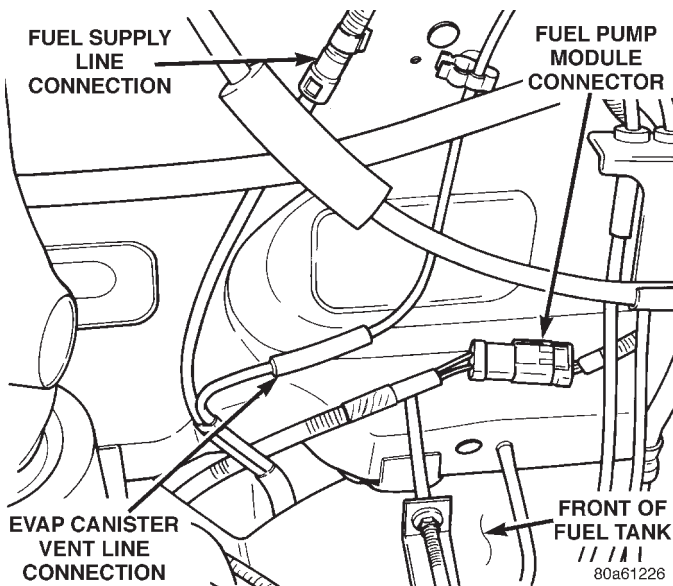

Fig. 38 Fuel Tank Connections at Front of Fuel Tank
(10) Disconnect fuel supply line near front of fuel tank (Fig. 38). Refer to Fuel Tubes/Lines/Hoses and Clamps in this group. Also refer to Quick-Connect Fittings for procedures.
(11) Disconnect EVAP canister vent line near front of tank (Fig. 38).
(12) Disconnect fuel pump module electrical connector (pigtail harness) near front of tank (Fig. 38). Harness connector is clipped to body.